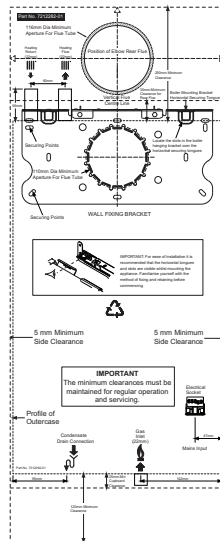

Fig. 20
1. After considering the site requirements, position the fixing template on the wall ensuring it is level both horizontally and vertically (Fig. 20).